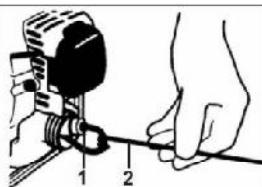

Fig.PP17
5. Use a wire hook to extract the fuel filter from inside the fuel tank (See Fig.PP17)